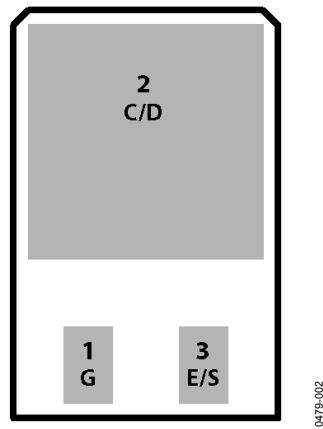

Figure 2. IGBT/MOSFET Footprint
- Q1 and Q2 can be populated with TO-263 or TO-252 MOSFETs or IGBTs with the pinout shown in Figure 2.